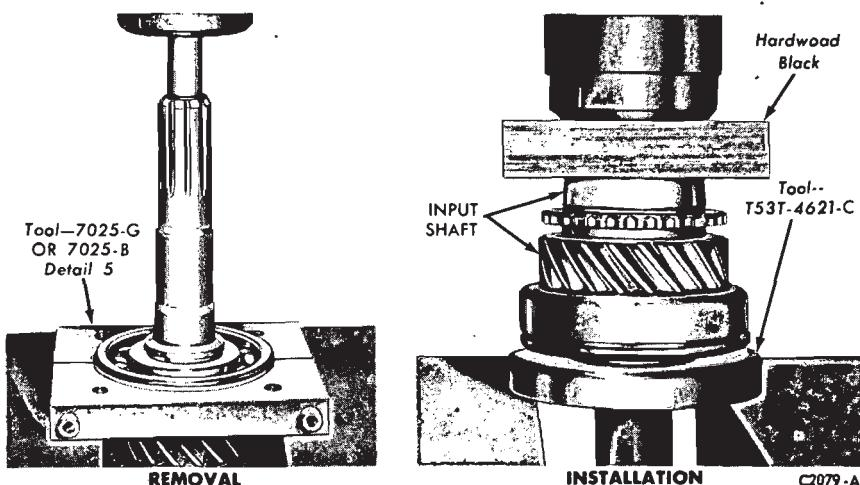

FIG. 16—Replacing Input Shaft Bearing
- Press the input shaft gear out of the bearing as shown in Fig. 16.